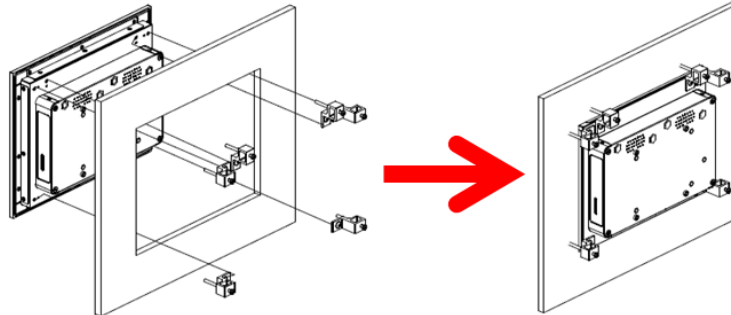

Figure 2-6: Screwing the Panel PC firmly to the panel frame.
Step 4 As Figure 2-6 below illustrates, use the panel mount kits to secure the panel PC in the panel frame. Insert the screws through the hook brackets into the corresponding holes on the back chassis of the panel PC. Tighten the screws to fix the panel PC firmly into the panel frame.